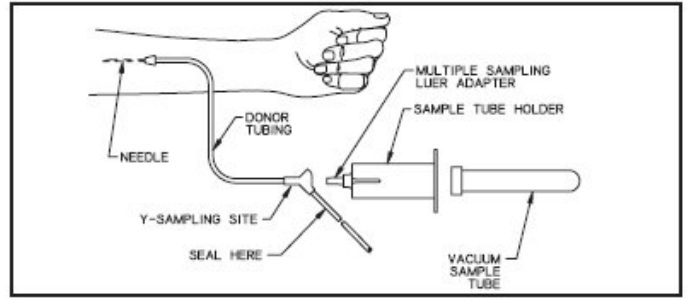

Figure 2
13. To collect samples, insert the access device by pushing firmly into the Y-Sampling Site until the membrane seal is penetrated (see Figure 2).